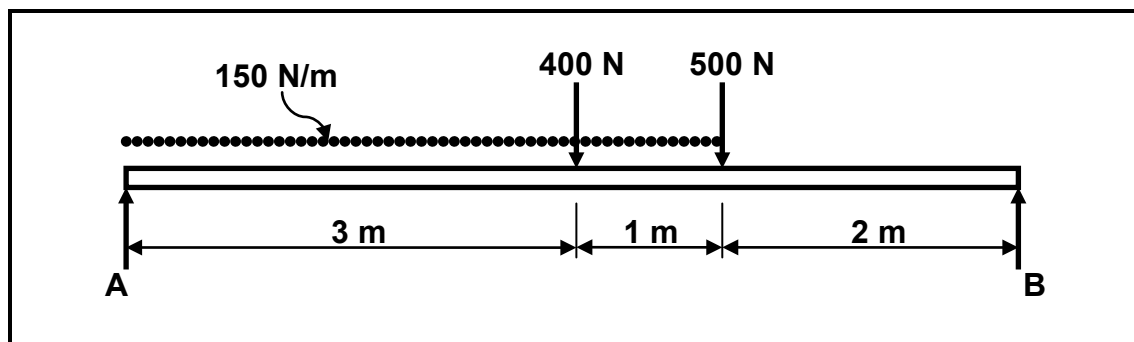

FIGURE 7.4
7.5 FIGURE 7.4 shows a uniform beam that is supported by two vertical supports, A and B. A uniformly distributed force is exerted on the beam over a distance of 4 m from the left side of the beam. Determine by means of calculations the magnitudes of the reactions in supports A and B.